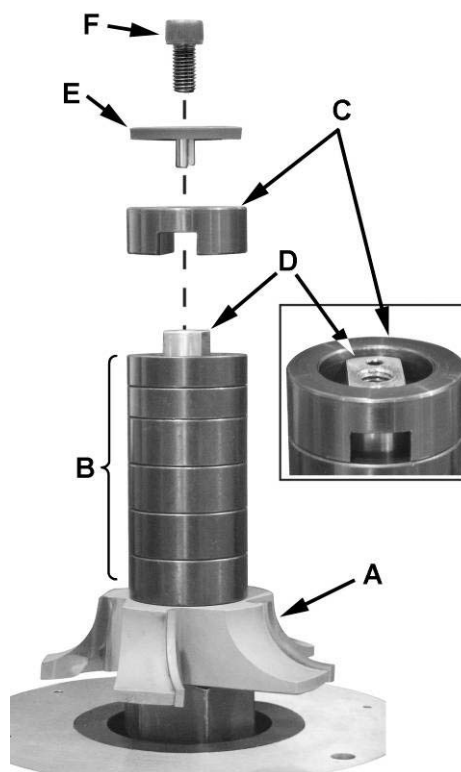

Figure 16
Referring to Figure 16:
The Model PM2700 Shaper is equipped with pulleys that allow you to change the spindle speed. The *belt* (B) placed on the upper pulleys (as shown in Figure 16) provides 7,500 RPM spindle speed. Placing the belt on the lower pulleys provides 10,000 RPM spindle speed.
To change speed (refer to Figure 16):